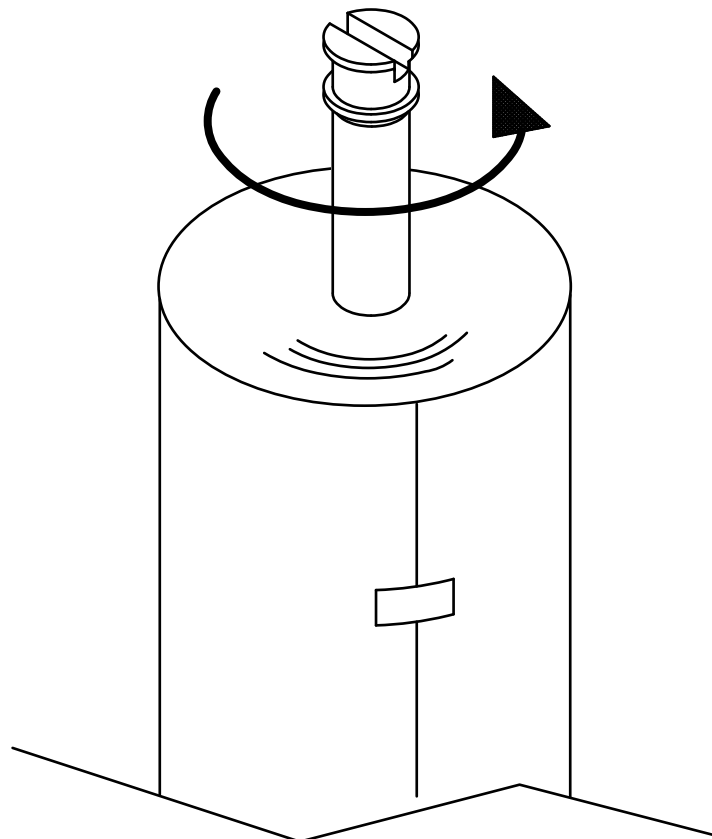

Figure 25. Manually freeing the take-up shaft.
3. Stand the roll on end with the flanged coupling pointing up. Rotate the take-up shaft counter clockwise (opposite to the direction that the paper was rolled on the machine. (See *Figure 25*.)